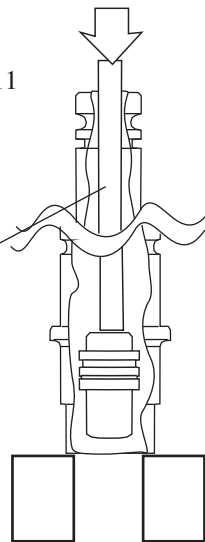

Fig. 12
- (4) Insert 1R236 "round bar for arbor 7mm" in tool holder and remove the following parts from tool holder by pressing with arbor press. See Fig. 12. After removing, clean the inside of tool holder in order to prevent O ring's wearing away.